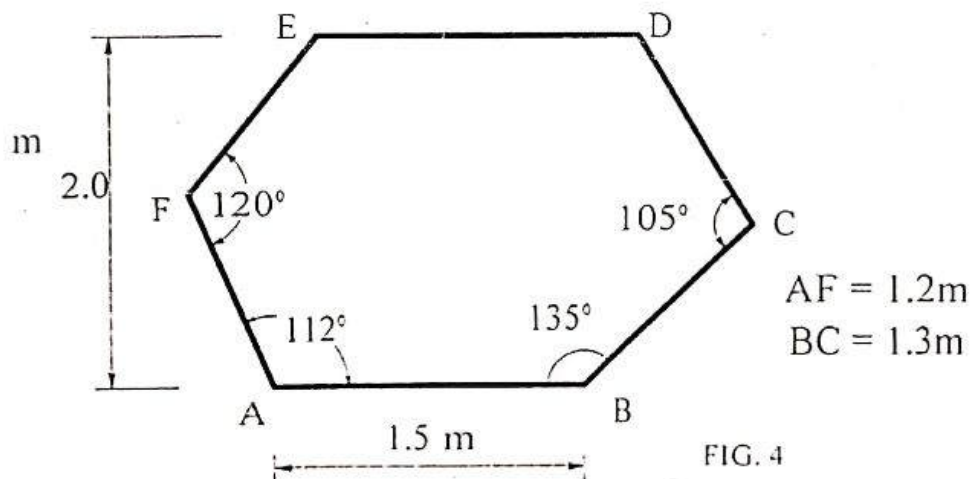

FIG. 4
- Using the enlarged scale drawn in (b) above, construct the hexagon shown in fig.4 (08 marks)